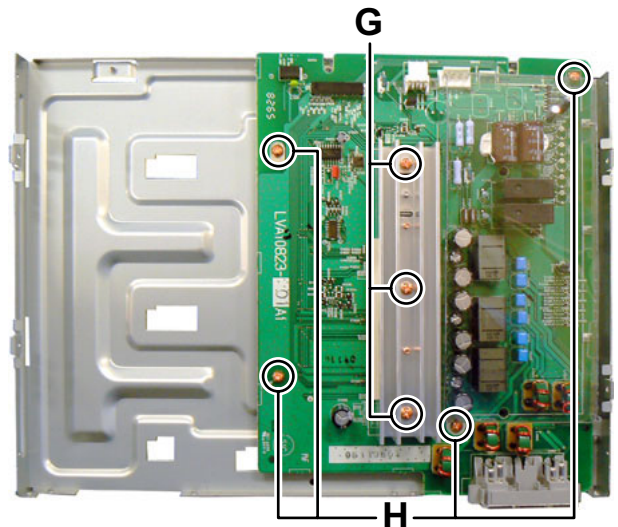

Fig.11
### 3.1.4 Removing the Amp board (See Fig.11)
- (5) Take out the pickup assembly from traverse mechanism chassis by order. (See Fig.11)